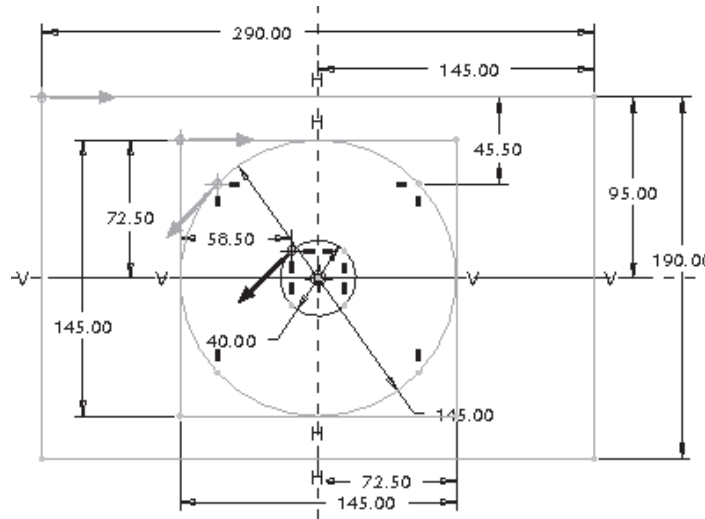

Figure 8-114 All four completed sections before giving depth
- e. Create the sketch for the fourth section, refer to Figures 8-114. Give the depth between section numbers 1 and 2, 2 and 3, and 3 and 4.
Figure 8-114 shows all sections completed with dimensions.
In Figure 8-114, note the direction of the start points indicated by arrows. These arrows are important to avoid a twisted feature.